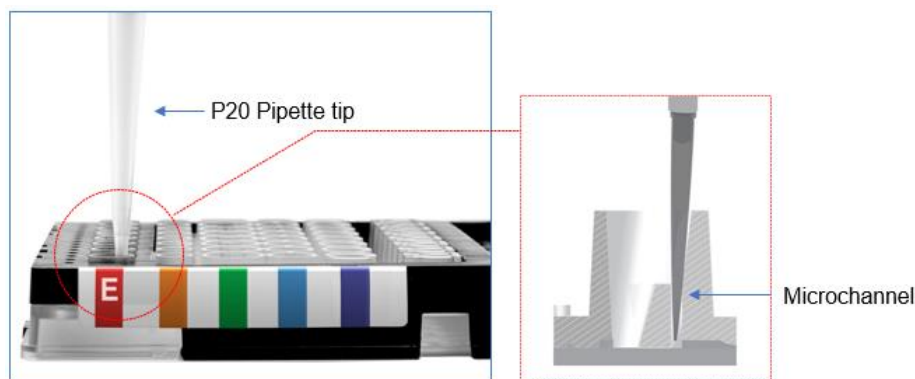

Figure 8. Recovery of any remaining DNA from the Extraction Well microchannel
3. Using a P20 pipette set to 10 μ L, aspirate any remaining DNA extract from the microchannel on the right side of the Extraction Buffer well and combine with the extract from Step 2. See **Figure 8**.